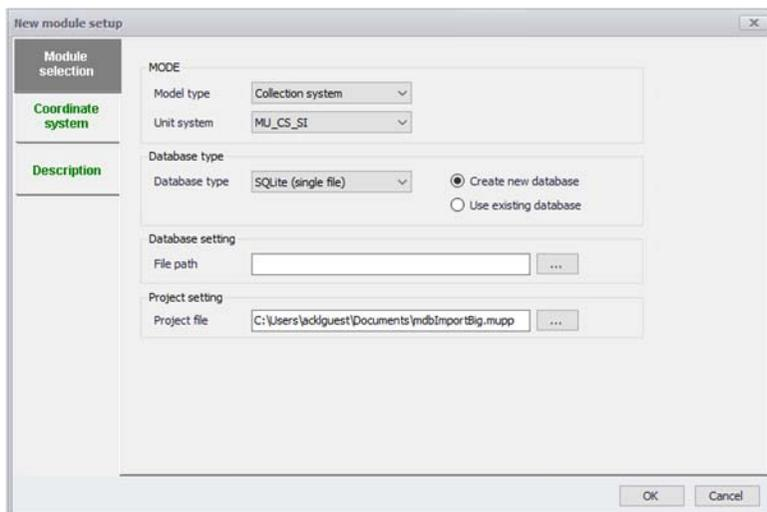

Figure 9.1 Creating a new collection system project
1. Create a new collection system model by going to File|New and in the dialog that appears, select the model type to be "Collection System". (Refer to Figure 9.1). Note, you can always change your initial choice of mode which activates/de-activates the appropriate menus afterwards.